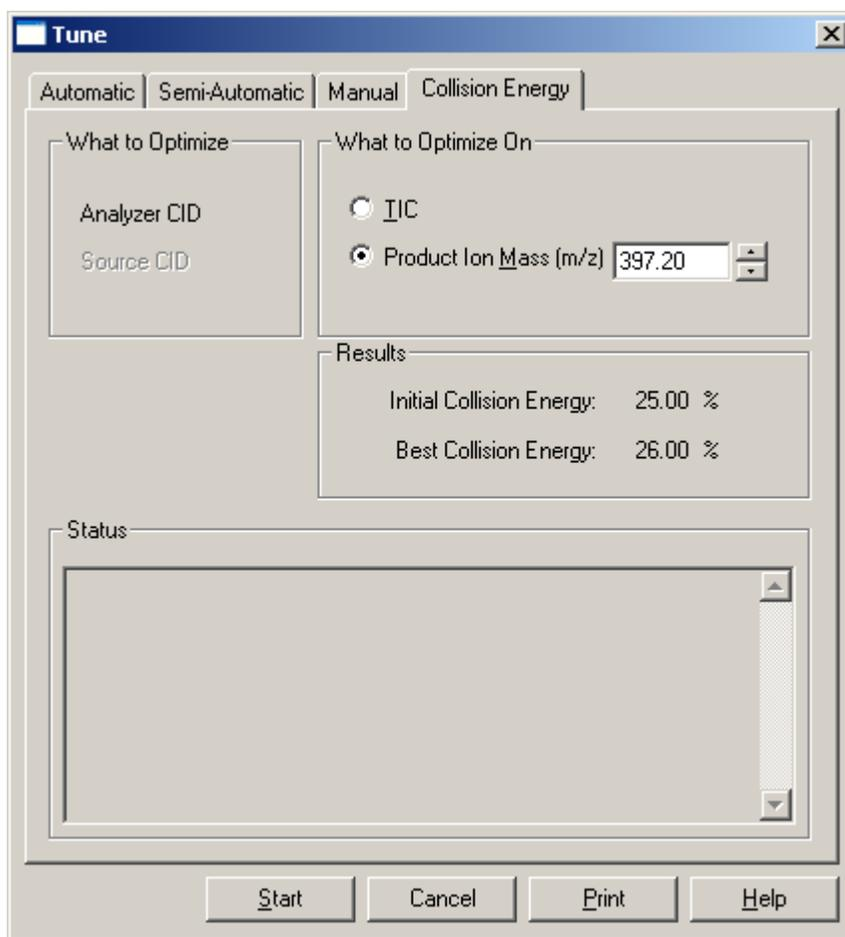

Figure 40. Tune dialog box, showing the Collision Energy page
11. In the Tune dialog box, click the **Collision Energy** tab to display the page. See Figure 40.
1. In the Tune dialog box, on the Collision Energy page (Figure 40), click **Start** to start the optimization procedure. A message box displays the following message: